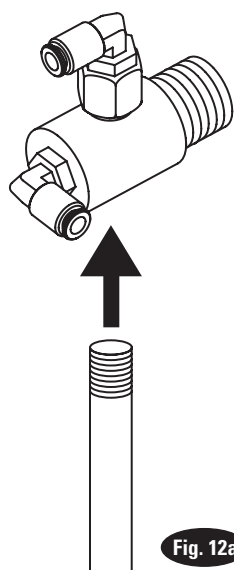

Fig. 12a
2. Install sensing tube into LDS valve assembly as shown, Fig. 12a. Sealant may be required on threads to ensure air tight connection. Connection must be air tight to 90 PSI. Hand tighten tube then turn an additional 2 turns; maximum engagement is 3/8".